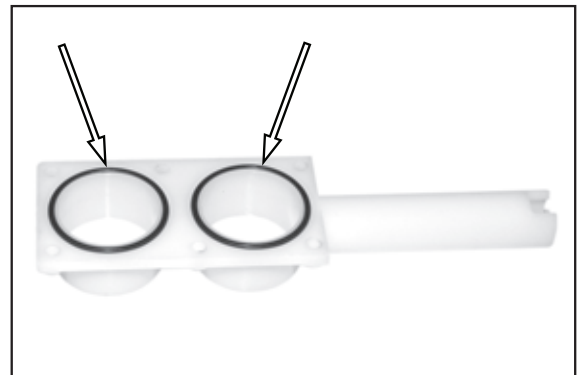

Figure 65.
3. See Figure 65. If necessary, replace the two o-rings.